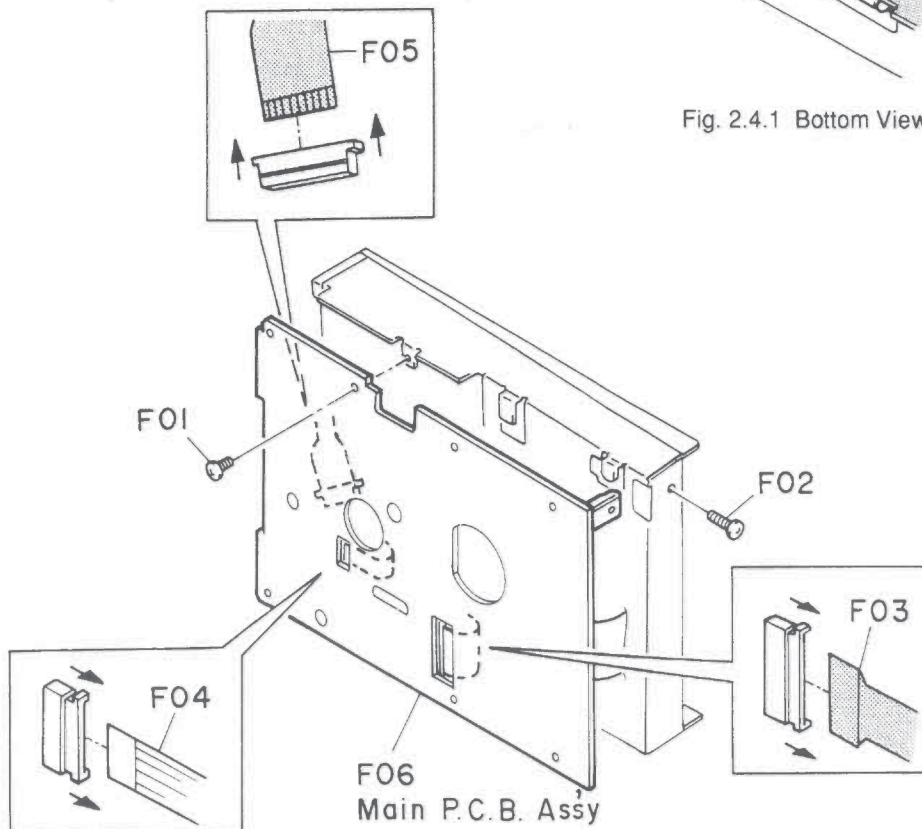

Fig. 2.4.2 Bottom View
- (3) Remove screws F01 (1 pce.) and F02 (1 pce.). Refer to Fig. 2.4.2.
- (4) Disconnect F03 (Mecha Flexible P.C.B. Ass'y) by pulling the edges of the connector CP103 on the Main P.C.B. Ass'y to unlock the connector edges. Refer to Fig. 2.4.2.
- (5) Pull the edges of the connector CP102 on the Main P.C.B. Ass'y to unlock the connector edges and carefully pull out F04 (Traverse Flexible P.C.B. Ass'y).
- (6) Pull the edges of the connector CP101 on the Main P.C.B. Ass'y to unlock the connector edges and carefully pull out F05 (Pickup Flexible P.C.B.).
- (7) Remove F06 (Main P.C.B. Ass'y).